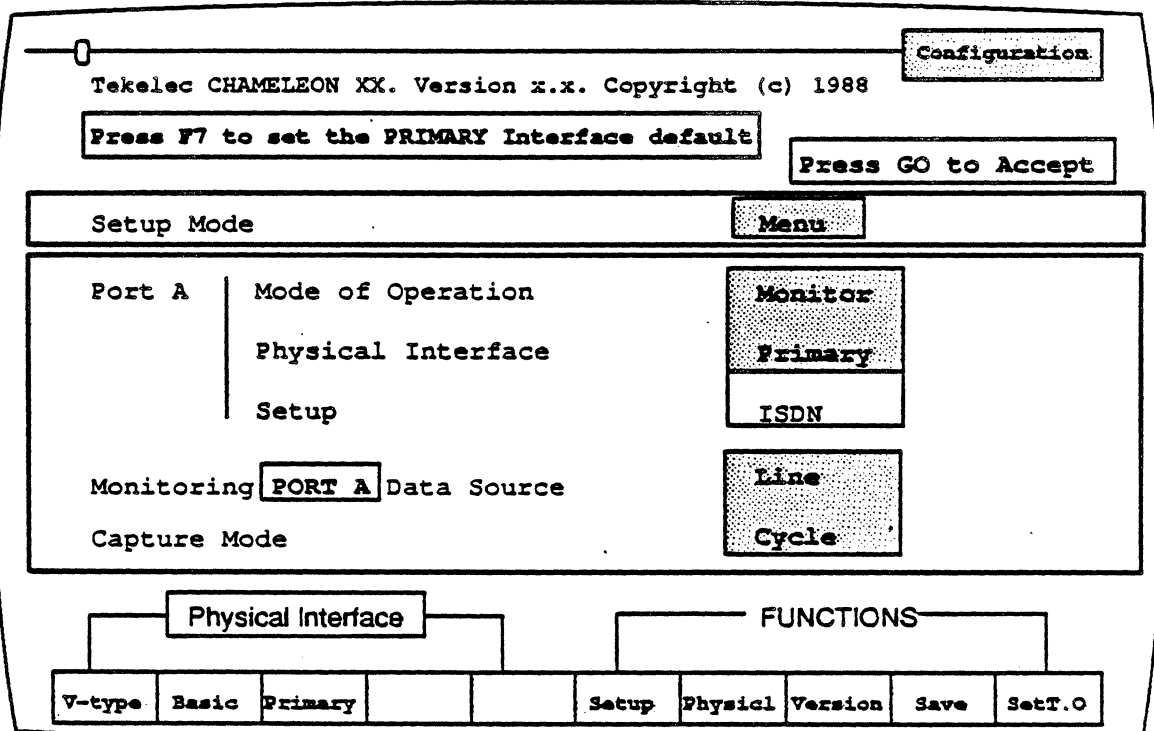

Figure 12.3: Main Configuration Menu
2. Power up your Chameleon and display the main Configuration menu (Figure 12.3). Note that the display shown is for the Chameleon 32. The display for a Chameleon 201 will be similar with the exception of the Physical Interface options.